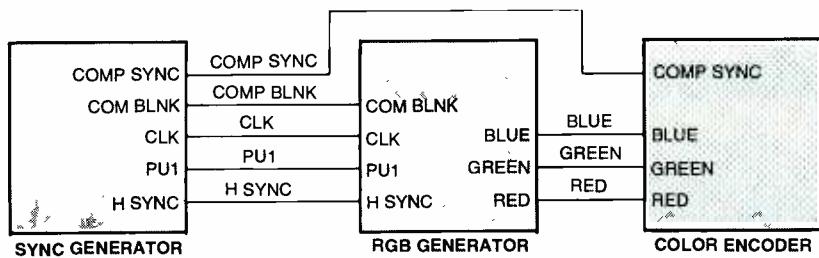

Fig. 2. The NTSC/PAL Signal Generator consists of three sections: a sync generator, an RGB generator, and a color encoder.
**How It Works.** The NTSC/PAL Signal Generator uses some established components because they are readily available and very inexpensive. The block diagram in Fig. 2 shows the main sections of the complete NTSC/PAL Signal Generator